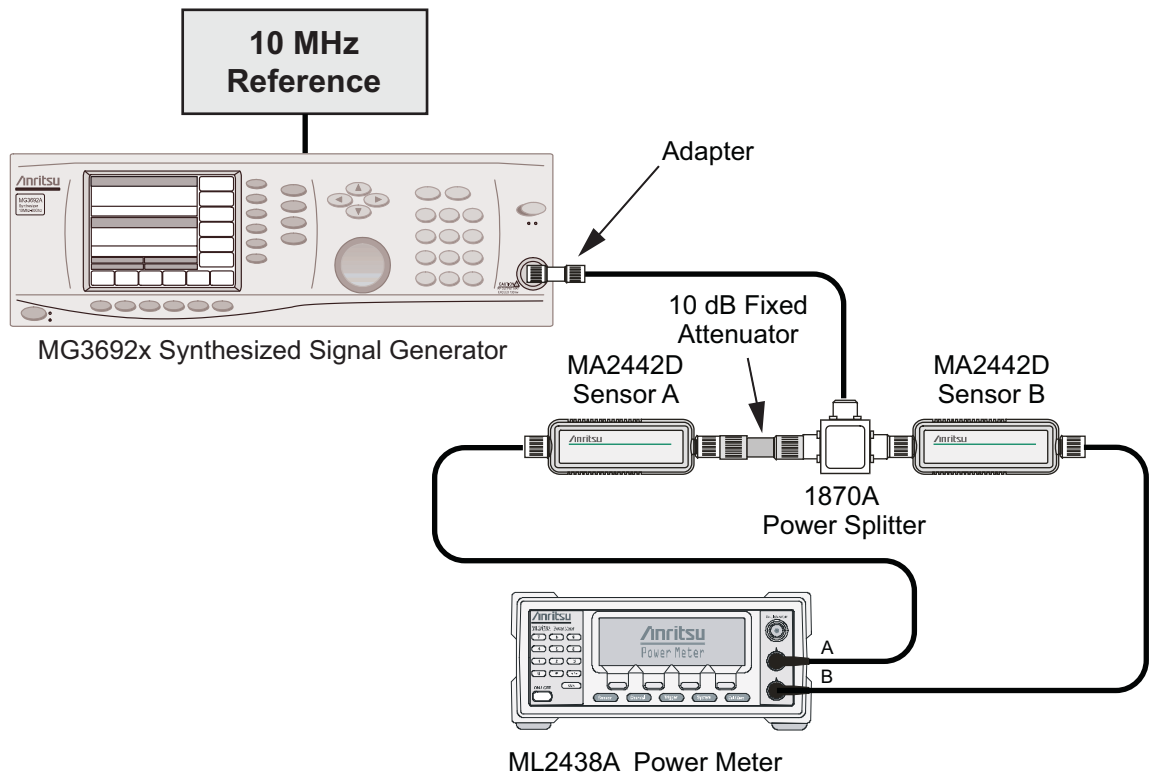

Figure 4-1. Power Meter Measurement Accuracy
2. Connect the model 1870A power splitter to the MG3692x output and sensor B to one of the power splitter outputs (Figure 4-1).